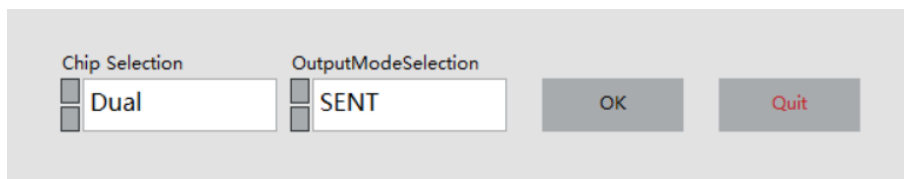
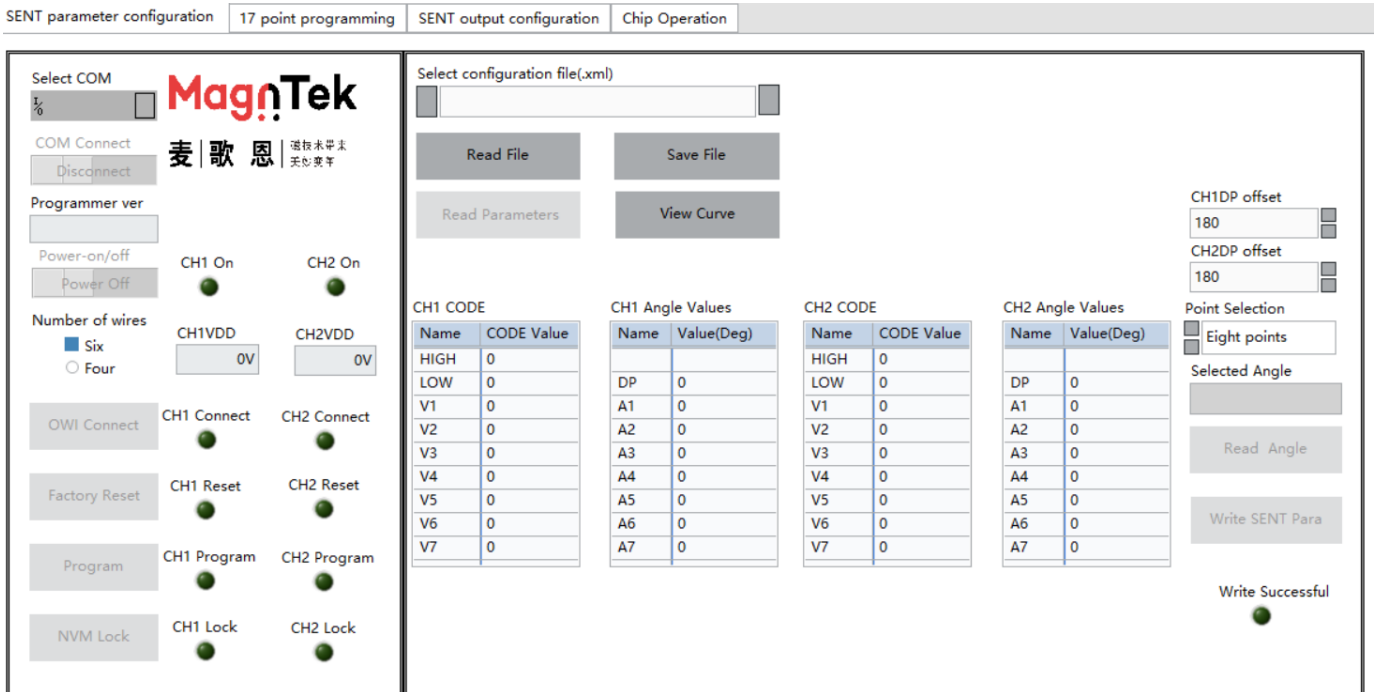

Figure 5.6.1 Chip mode selection
Figure 5.6.2 Dual chip SENT parameter configuration
- 3、 Double click on the "PB600-MT652xGUI. exe" file, open the software, and a chip mode selection interface will pop up (Figure 5.6.1). After selecting the "Dual" and "SENT" parameters, click "OK" to enter the programming interface for this mode (Figure 5.6.2).